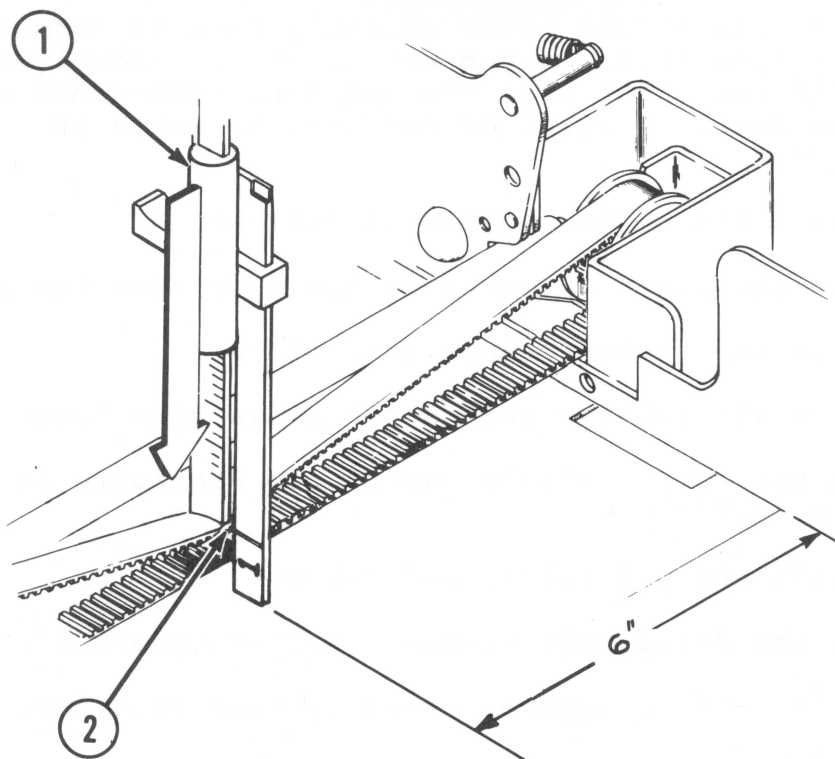

FIGURE 17
- \*3. Use a pen to mark a line on the belt six inches from the right side of the frame (see Figure 17).
- \*4. At this same point on the drive belt, place the combination gauge so that the side marked "1" is resting on the base plate of the chassis (see Figure 17).
- \*5. Use a spring scale to push directly down on the marked point on the drive belt with one pound of force (see Figure 17, #1). With the combination gauge resting on the bottom structure, the lowest scribe line on the gauge should be even with the top of the belt (see Figure 17, #2).